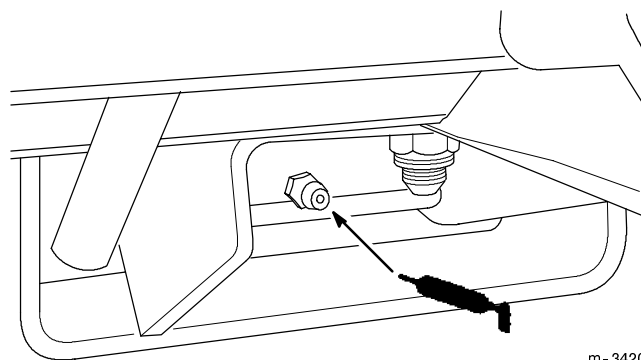

Figure 36
6. Grease the fitting on the brake pedal (Fig. 36).